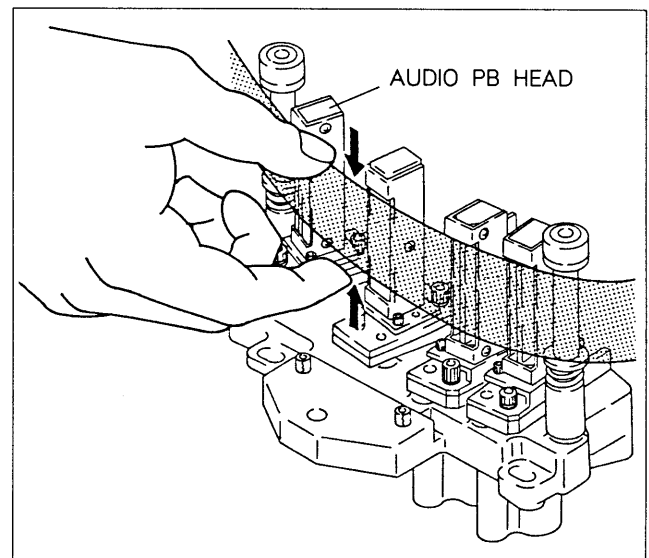

Fig. 9-6-3. Audio PB Head Height Check
- (2) Set the time base of oscilloscope to 500 μ secs.
- (3) Push up or down the tape against the PB head during playback as shown in Fig. 9-6-3. Check that the CH-1 output is decreasing from the maximum level when the tape has been pushed both upward and downward.